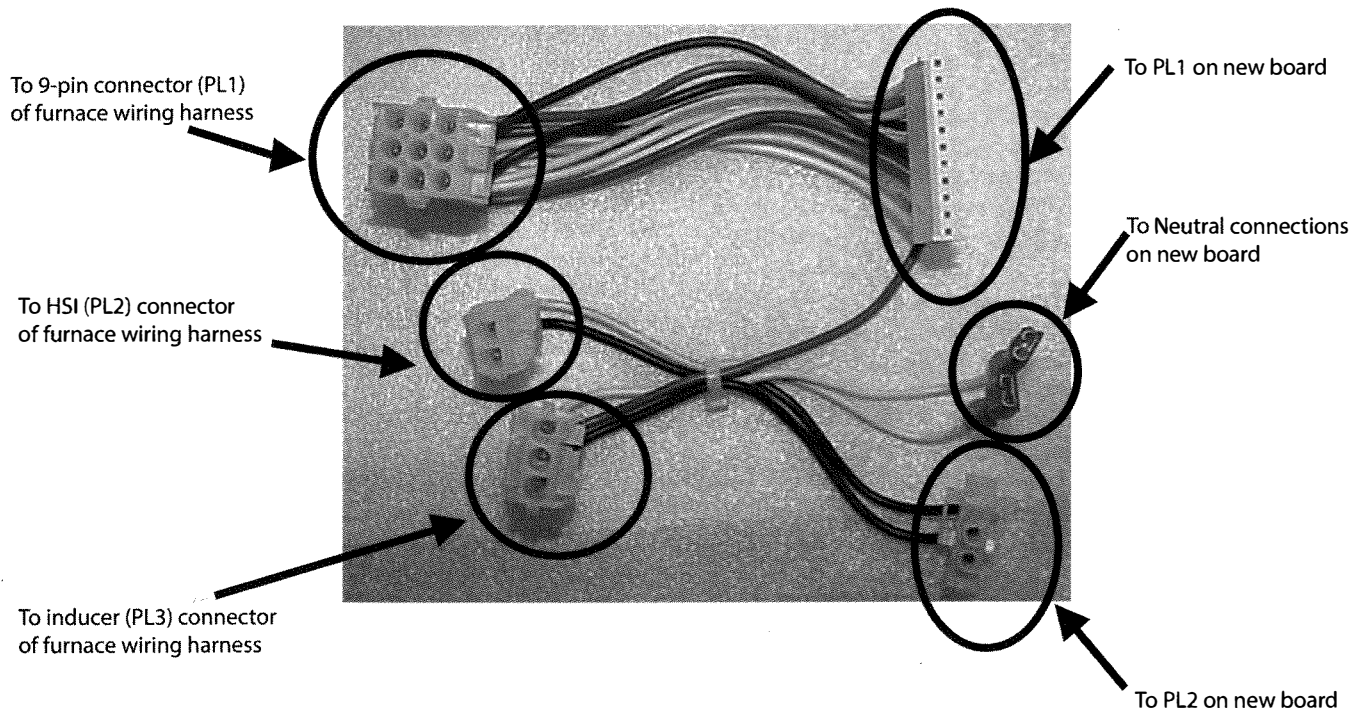

Fig. 3 - Wiring Harness Adapter
3. Install furnace control board retaining screw(s). Install wiring harness adapter (part# 328151-701) to three connections of the existing furnace wiring harness. See Fig. 3.